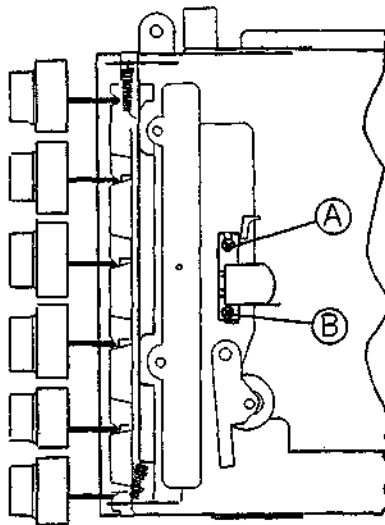

Fig. 9
3. Adjust the head angle by turning the screw (A) minutely for maximum output (Refer to Fig. 9).